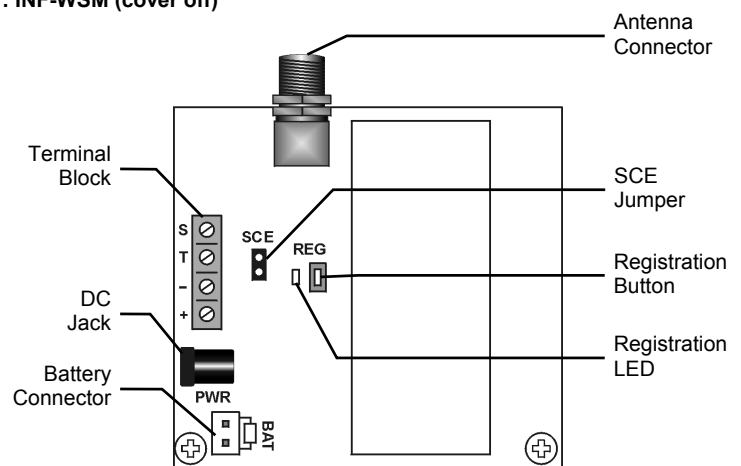

Figure 2: INF-WSM PCB
- To enable the Strobe Current Economy feature, install the SCE jumper – see *Figure 2*.